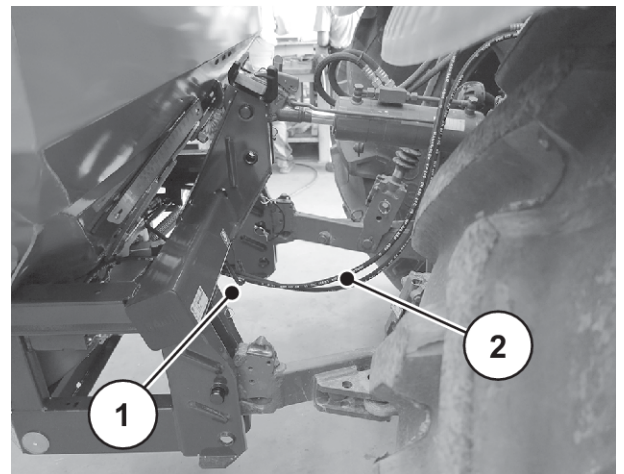

Fig. 23: Hydraulic hose guide
- ▶ Lay the hydraulic hoses below the cross pipe. See *Fig. 23 Hydraulic hose guide*